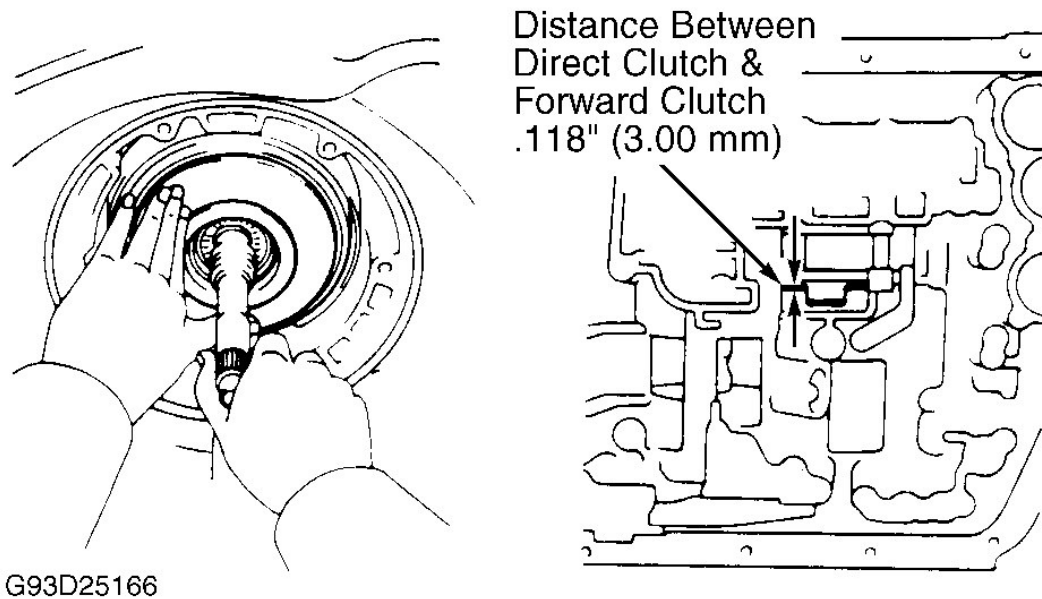

Fig. 47: Checking Distance Between Direct & Forward Clutch
24. Rotate forward clutch to mesh front planetary ring gear and discs. Check distance between direct clutch and forward clutch. See **Fig. 47**. Distance should be .118" (3.00 mm).